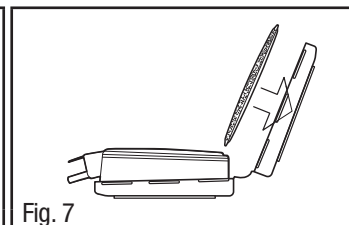
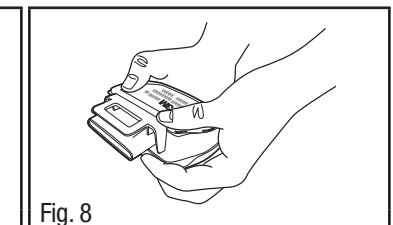

Fig. 7
Fig. 8
3. Orient a filter in the other half of the filter retainer so the shape of the filter aligns with the shape of the filter retainer and the printed side of the filter faces down (Fig. 7). Wrap the opposite end of the retainer around the cartridge and assemble by pressing down on all four corners of the cartridge/filter retainer (Fig. 8).